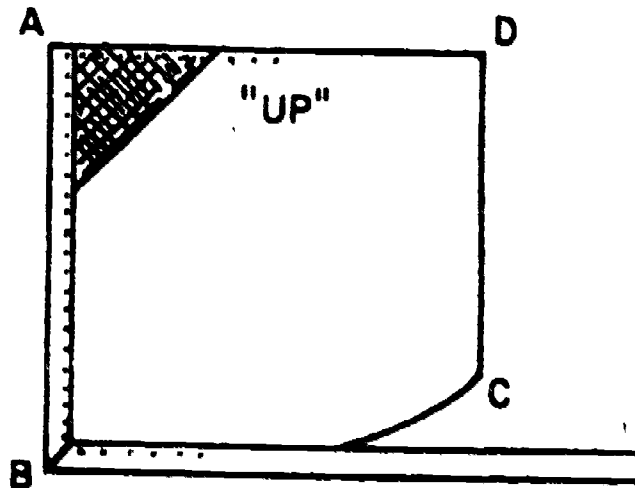

Figure 11. Binding the Flap.
1. With the 17" piece of $3/4$ " cotton binding tape, start at A, Figure 11, and bind the edges of the flap with a BSA-2 seam, sewing $1/16$ " from the selvage edge of the tape.
2. Proceed counterclockwise around the flap making mitered corners at points B, C and D, Figure 11.
4. When making the second row of stitches to form the BSA-2 seam, start at corner A, Figure 11, $1/16$ " from the folded edge, and sew in a clockwise direction to corner D. Continue around the flap to starting point A, ending with an anchor and backstitching.